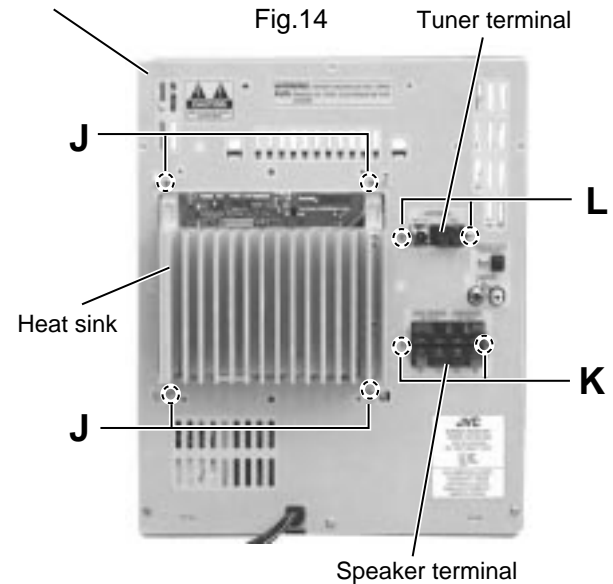

Fig.15
■ Removing the tuner pack (See Fig.15 and 16)